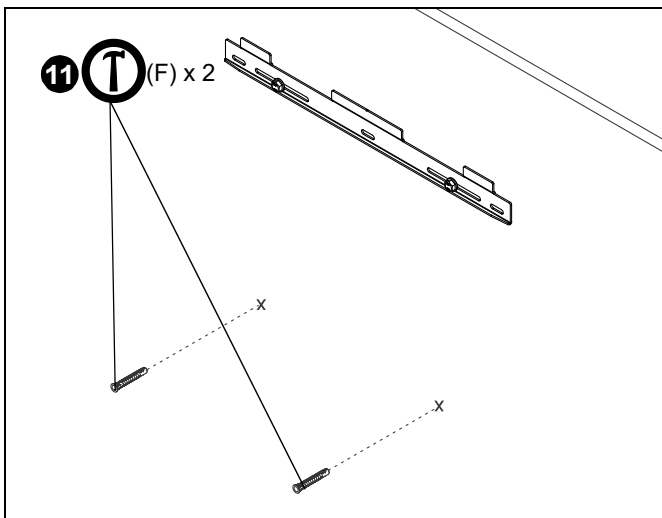

Figure 10
11. Install an anchor (F) into each pilot hole using a hammer, making sure that the anchor is flush with the wall. (See Figure 10)